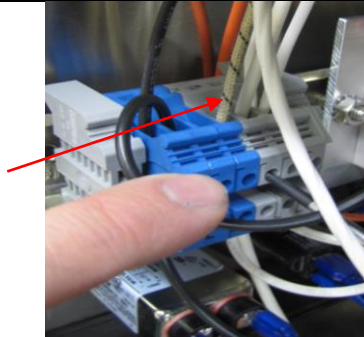

Figure 9
5. With a small flathead screwdriver loosen the setscrew pinching the wire in the terminal block. Pull this wire from the terminal block. Reference Figures 9 and 10.